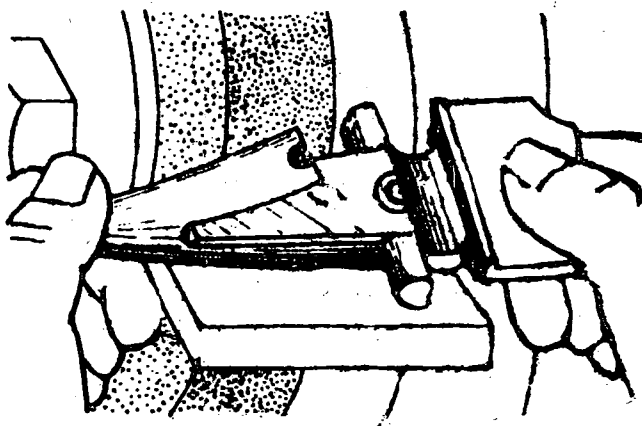

Fig. 4
- b) Sharpen the ledger plates with the fixed grinder without removing them from their guards. Maintain the angle of the original bevel (Fig. 4).